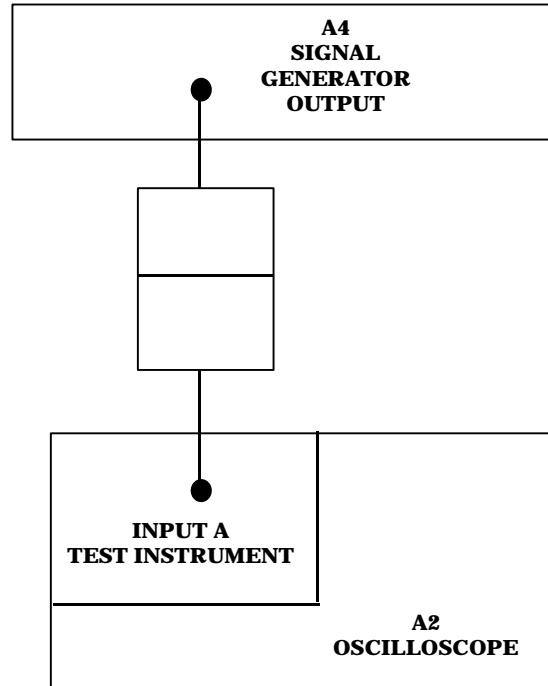

Figure 6. Frequency response setup.
- (1) Connect equipment as shown in figure 6.